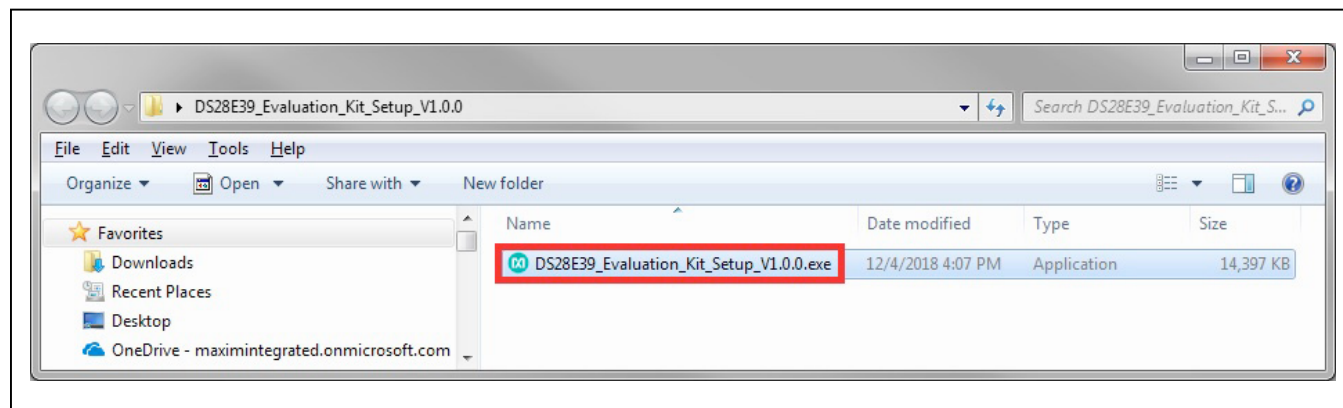

Figure 1. File Viewer
- 2) In a file viewer (Figure 1), double click on **DS28E39_EV_Kit_Software_Setup_V1.0.0.exe** to begin the installation.